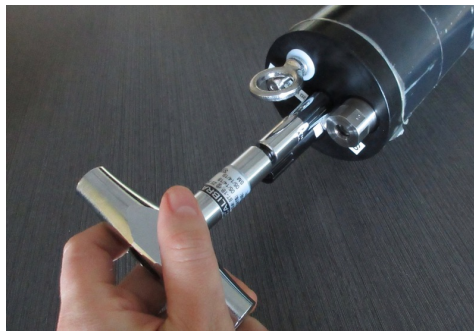

Figure 26: Tightening the Sealing Nut
3. Attach the sealing nut and thread the nut to pull the bulkheads and the tube together, resealing the pressure case. Tighten the sealing nut with the provided torque wrench (Figure 26) to a torque of 25 in · lb (3 N m).